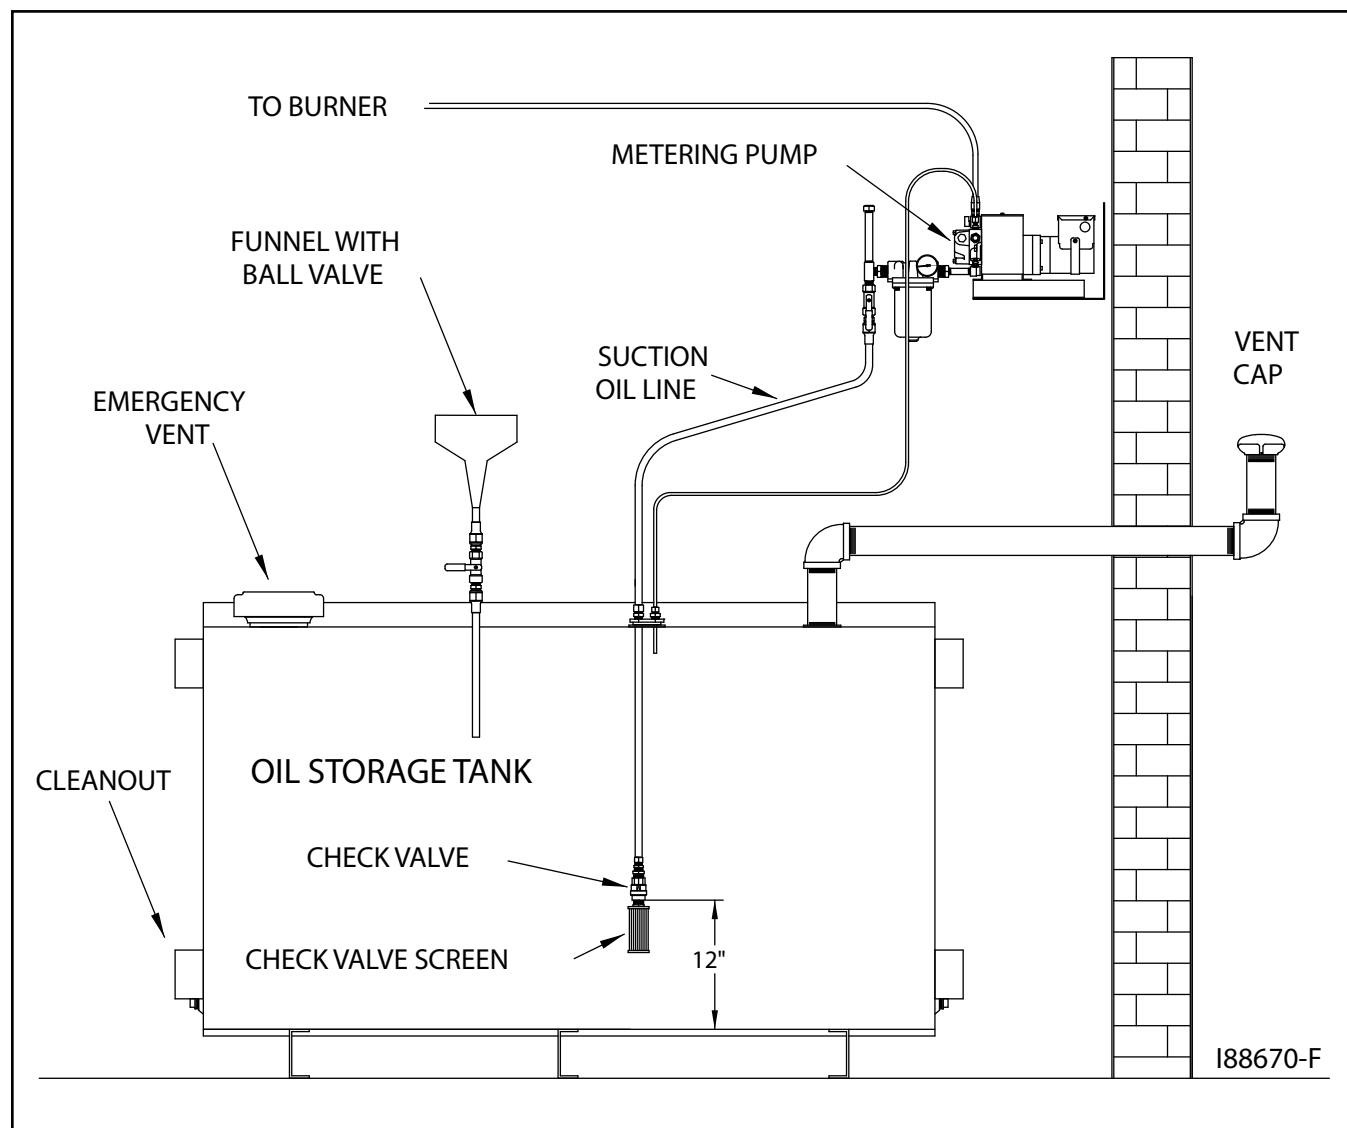

Figure 9D - Check Valve Detail
1. Refer to Figure 9D. Remove the one-piece suction oil line from the tank.